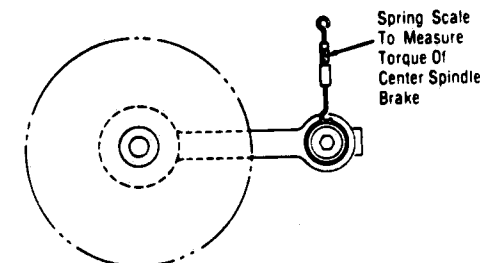

Figure 3-11. ATTACHING SPRING SCALE TO CENTRA ARM.
a. Attach spring scale to support arm per Figure 3-11.